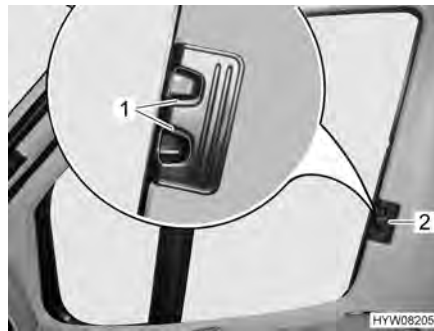
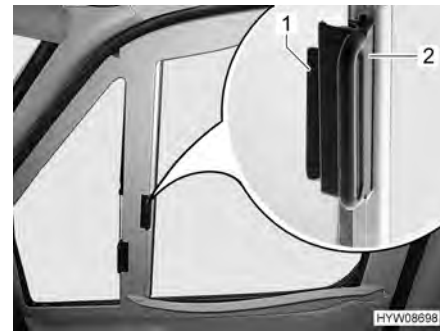

Fig. 22 Roman shade (driver's / front passenger's window, Fiat)
Fig. 23 Roman shade (driver's / front passenger's window, Mercedes-Benz)
- Depending on the locking system, press and hold down the locking handle (Fig. 22,1).
- Using the handle (Fig. 22,2 or Fig. 23,2), draw the Roman shades for the driver's and passenger's window to the other side of the window and secure them to the magnetic strips.
- Use handle (Fig. 22,2 or Fig. 23,2) to push in the Roman shades for the driver's and passenger's window as far as possible.
- Release the locking handle (Fig. 22,1) and let it click into place or push the handle (Fig. 23,2) onto the cap (Fig. 23,1).